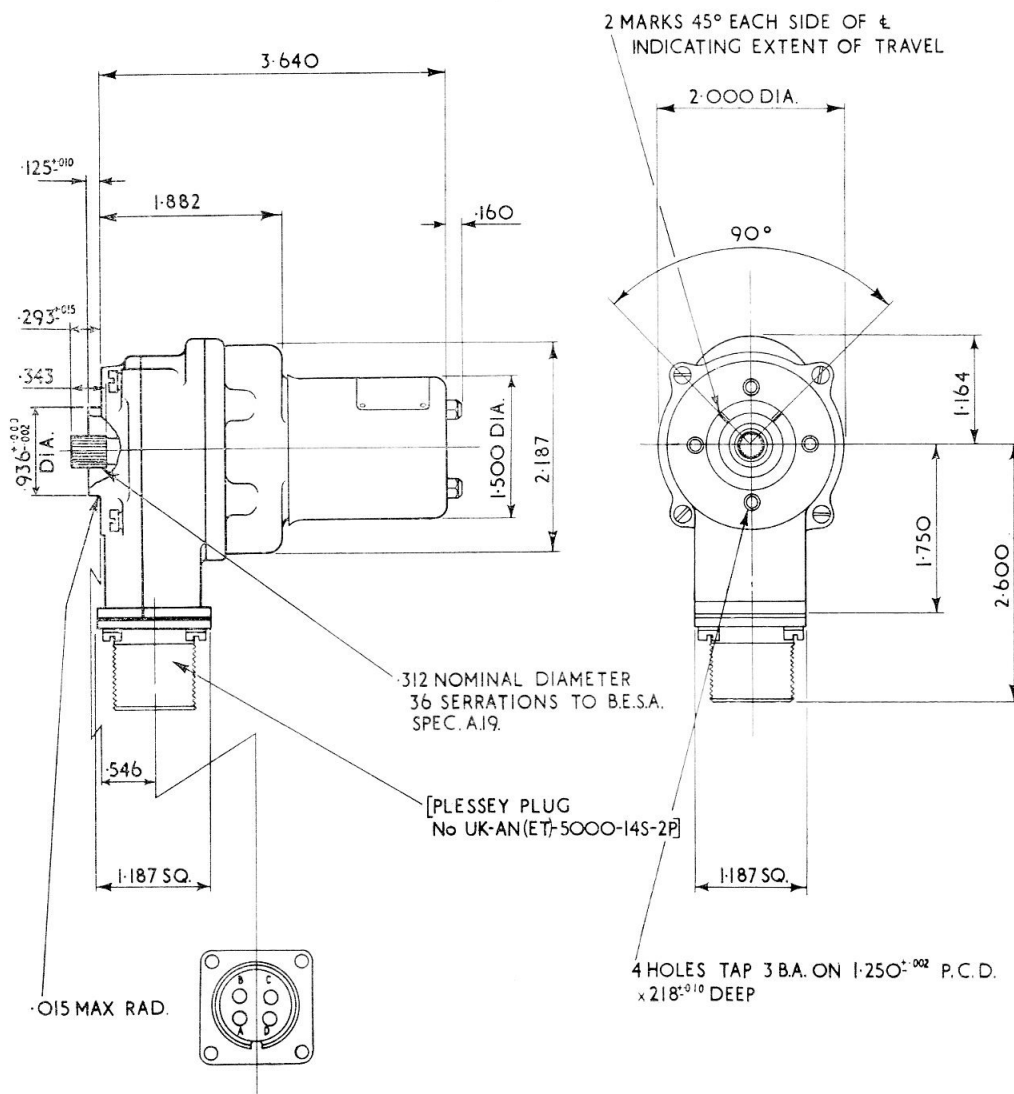

Fig. 2. Installation details
4. Information given in the main chapter regarding installation and servicing is applicable to this actuator. For details of installation in a particular aircraft, reference must be made to the relevant Aircraft Handbook. An installation diagram is shown in fig. 2.